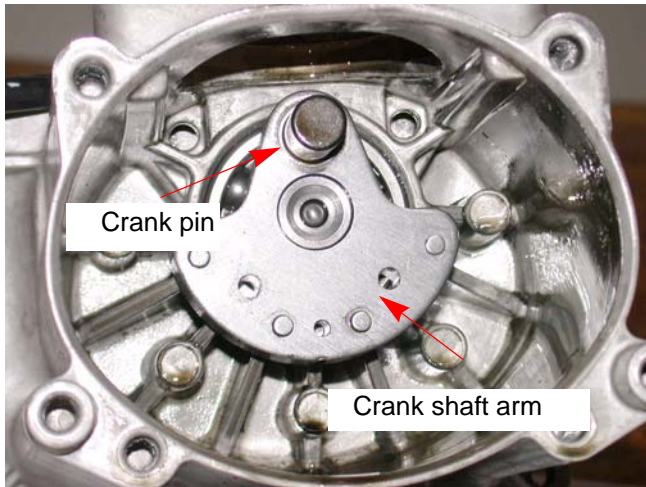

Figure 8.15
1. Rotate the crankshaft to top dead center (crank pin at the top). See Figure 8.15.